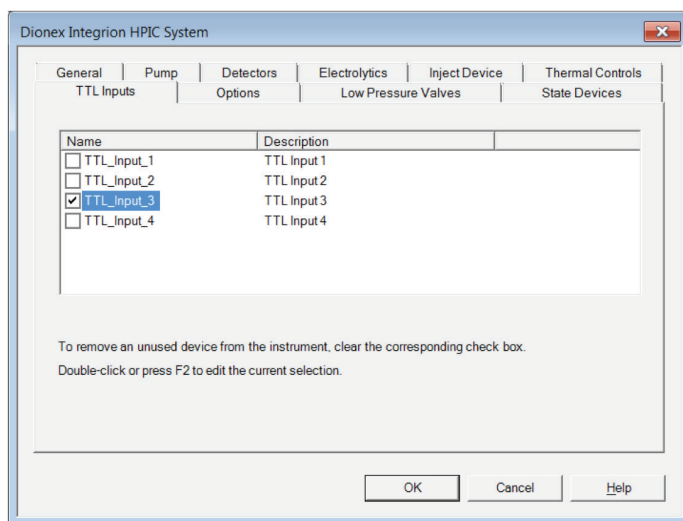

Figure 3. Dionex Integrion TTL input.
3. Open the TTL Inputs tab, and ensure that the designated TTL input is checked (Figure 3).